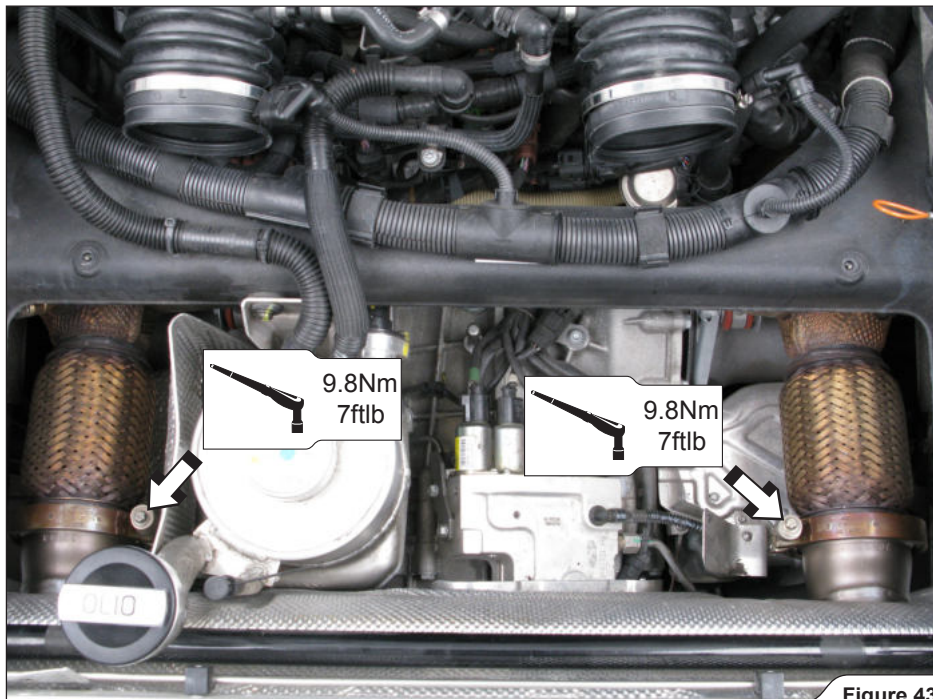

Figure 43
7. Tighten the stock muffler's connection clamps on both sides of the engine to the specified torque (**Figure 43**).